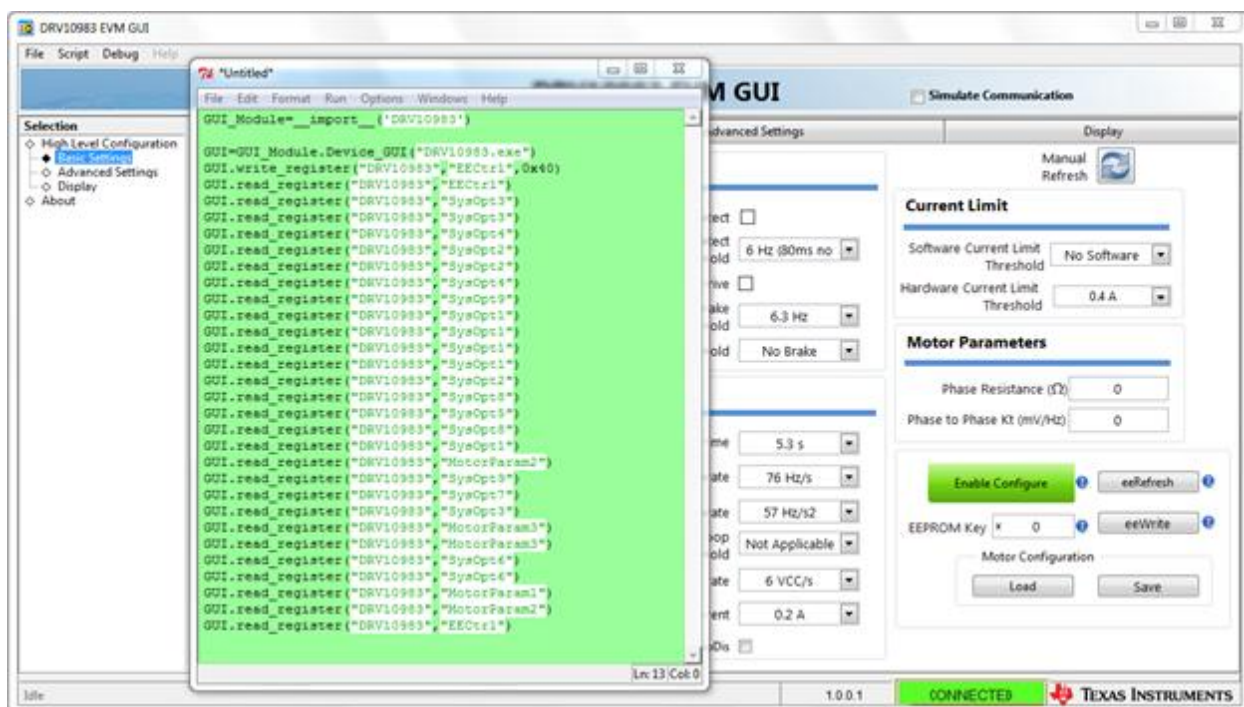

Figure 2-10 Start Recording
- The recording function is indicated by window blinking in green, while the window is recording as shown below in Fig.2-10.